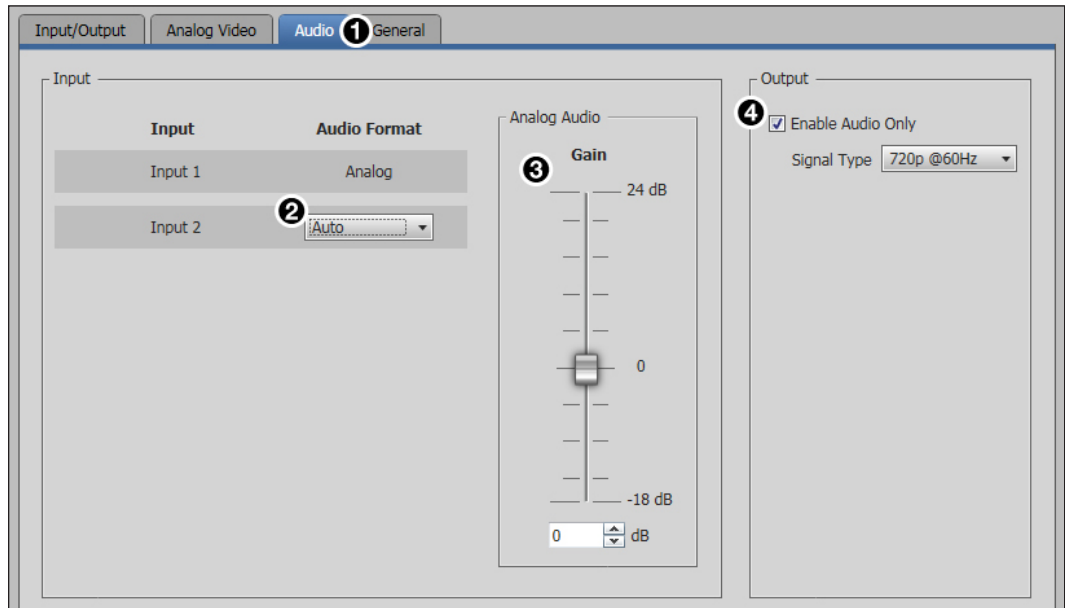

Figure 36. Audio Tab
Click the **Audio** tab (see figure 36, ①) to open the Audio screen. It contains settings for input format and analog audio gain.